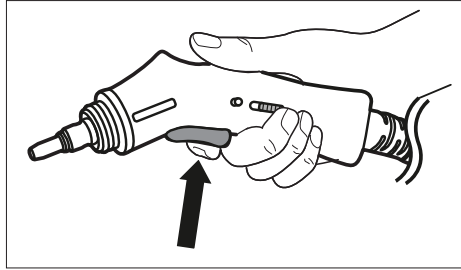

Fig. 8
1. Press the steam trigger (10) on the steam gun (7) to dispense steam (Fig. 8).
2. If needed, connect the desired attachment to the steam gun (7) (see section "Assembly").